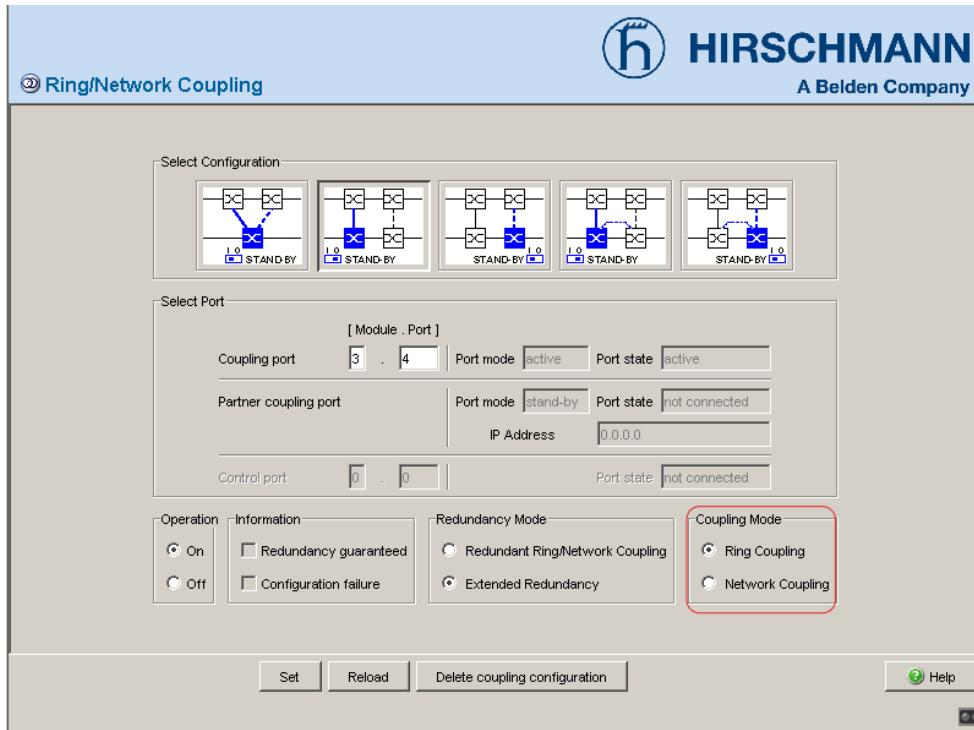

Figure 19: Selecting the coupling mode
- In the “Coupling Mode” frame, select (see fig. 19)